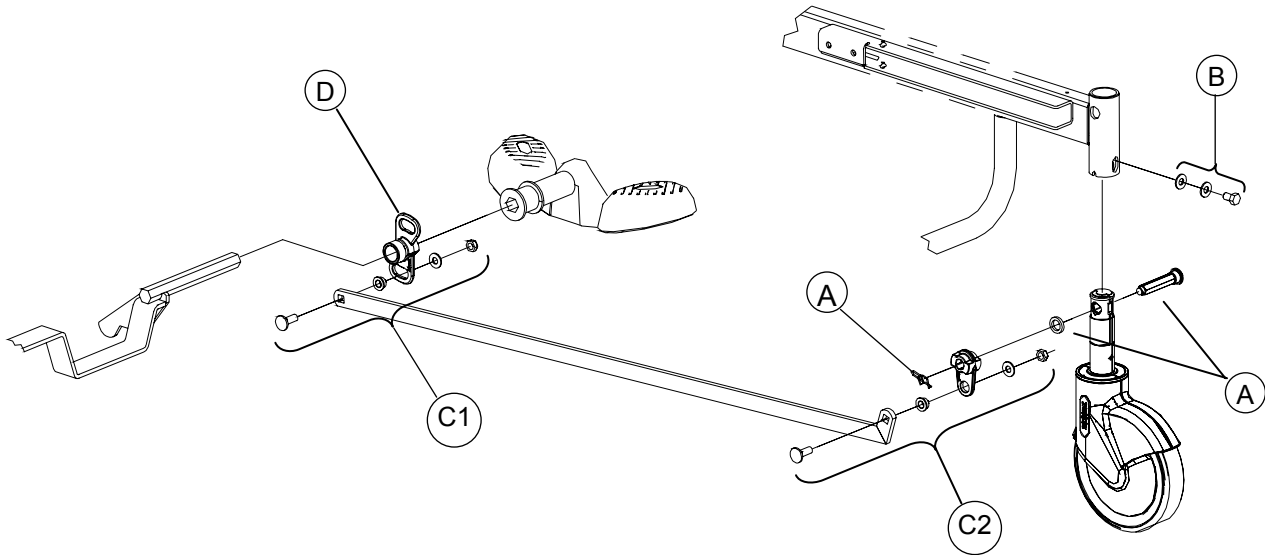

Figure 4.4B
5. Using a 1/2" socket wrench, remove the two nuts/shoulder spacers/washers/bolts (C1, fig. 4.4B, page 52) holding the brake rods to the locking levers on both sides of the mechanism. If the optional four-wheel brake system is present on the bed, also remove the fasteners holding the two other brake rods to the locking levers.
6. Using a 1/2" socket wrench, remove the two bolts (A) holding each side of the steer wheel mechanism to the base. Keep the molded spacers (B). Remove the assembly.
8. Keep the two locking levers (D, fig. 4.4B, page 52).
5. Using a 1/2" socket wrench, remove the nut/shoulder spacer/washer/bolt (C1, fig. 4.4B, page 52) holding the brake rod to the locking lever on the right side of the steer wheel mechanism. If the optional four-wheel brake system is present on the bed, also remove the fasteners holding the other brake rod to the locking lever.
6. Using a 1/2" socket wrench, remove the two bolts (A) holding the right steer wheel support to the base. Lay the support down and keep the molded spacer (B).
7. Using two 1/2" wrenches, remove the nut/shoulder spacers/bolt (D) holding the right torsion lever (E) to the lower part of the right counter lever.
8. Using a 1/2" wrench and a 3/16" Allen key, remove the two nuts/Allen screws (F) holding the torsion levers (E) to both ends of the torque shaft (G).